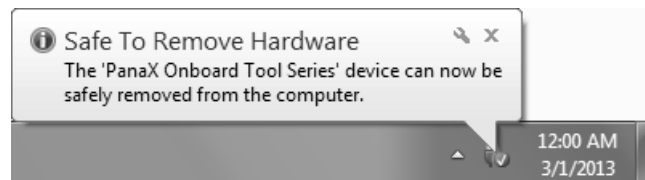

Figure 2.3.2 Safe To Remove Hardware
2. Select [Eject PanaX Onboard Tool Series], and verify that the message "The 'PanaX Onboard Tool Series' device can now be safely removed from the computer" is displayed as shown in Figure 2.3.2.